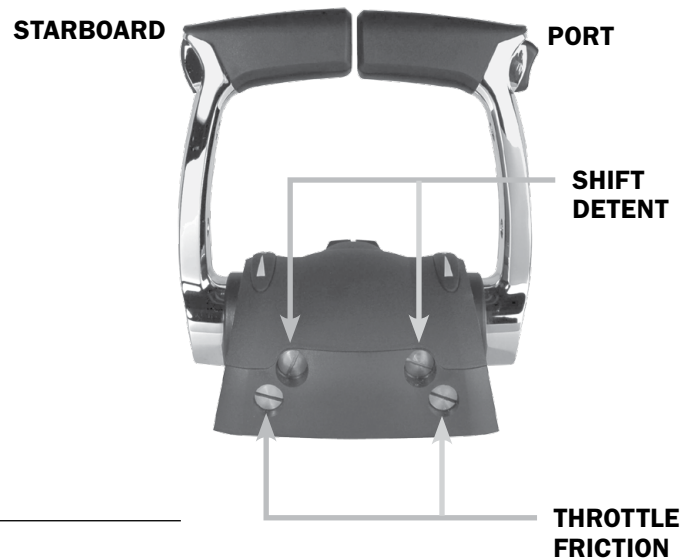
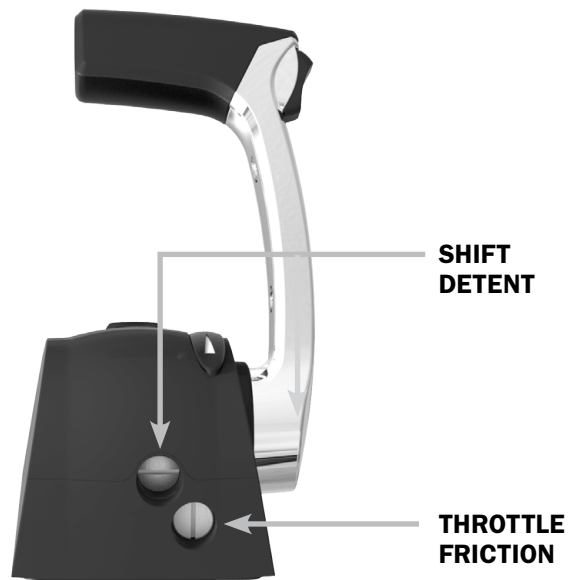

Figure 3-4.
Figure 3-7.
- The friction drag on the lever is adjusted with the throttle friction adjuster screw (see figure 3-4 or figure 3-7). Turn the screw clockwise to increase the friction on the lever, counter-clockwise to reduce the friction.